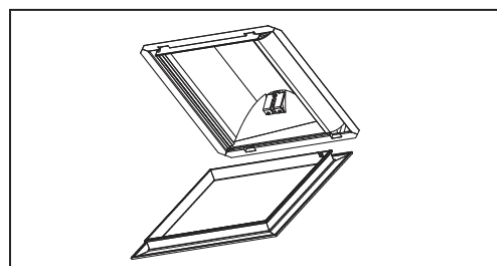

Fig. 13
4. Clip the fascia into the unit. Fig 13
8. Clip the ascia into the unit. Fig 13.